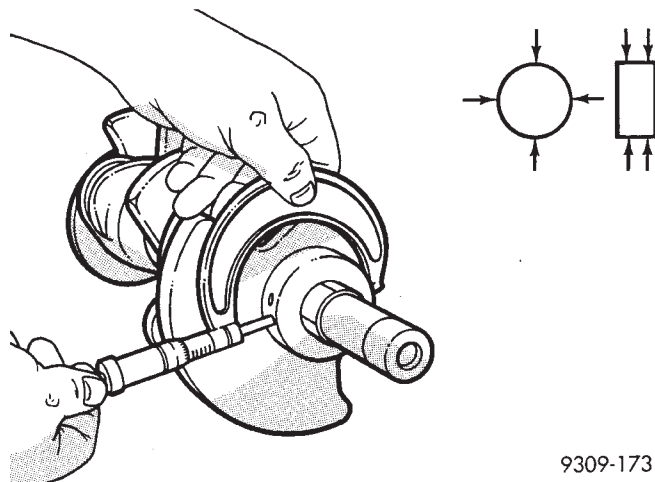

Fig. 20 Measure Crankshaft Journal O.D.
(1) Measure the journal outside diameter as shown in (Fig. 20). Refer to Crankshaft Specification Table.